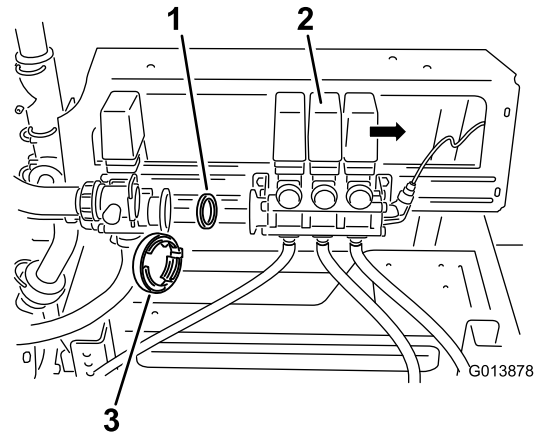

Figure 5
- Carefully move the boom-valve-assembly away from the agitation valve (Figure 5).
- Remove the existing gasket in the valve body (Figure 5).